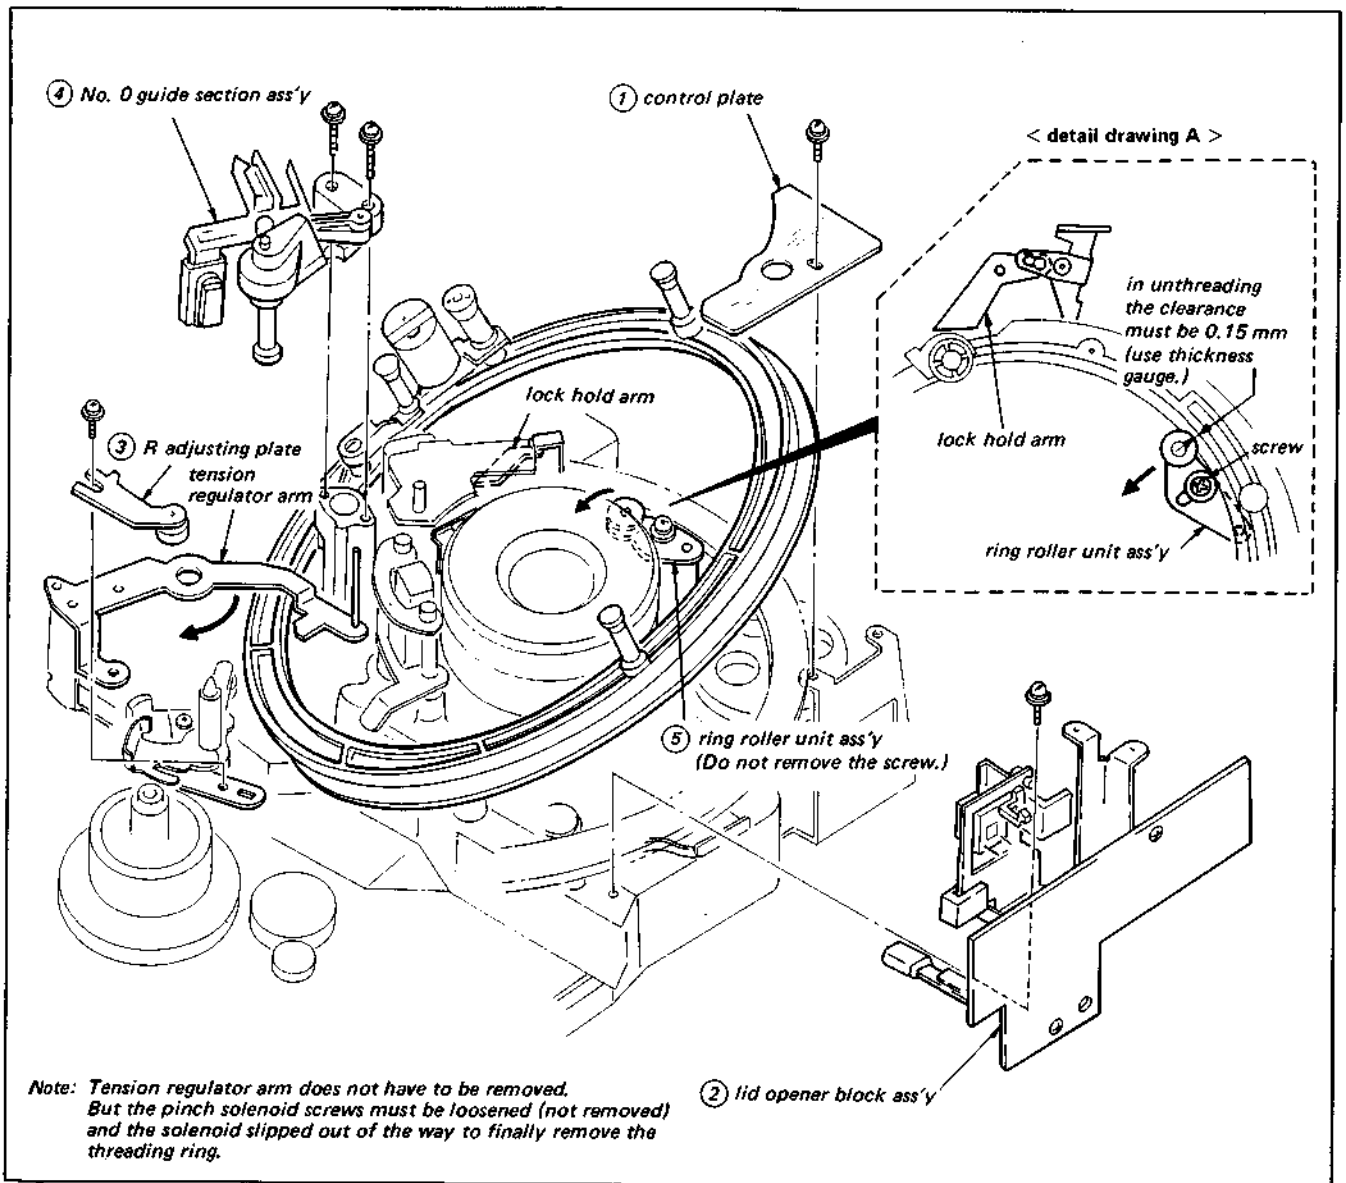

Fig. 3-29. Replacement of threading ring block assembly
1. Turn the threading ring to a point immediately before the threading completion position and stop it at the point where it does not touch the lock hold arm. (See Fig. 3-29.)
2. Perform procedures ① to ⑤ shown in Fig. 3-29.
4. Perform the adjustment of control plate ①, R adjusting plate ③, No. 0 guide section assembly ④, and ring roller unit assembly ⑤ after the replacement.
- (i) As to the adjustment of control plate ①, refer to "Position Adjustment of Threading Unit B assembly and Control Plate", Section 3-9-2.
- (ii) As to the adjustment of R adjusting plate ③, refer to "Clearance Adjustment of Ring Arm", Section 3-9-6.
- (iii) As to the adjustment of No. 0 guide section assembly ④, perform procedure 6 of this section.
- (iv) As to the adjustment of ring roller unit assembly ⑤, perform the adjustment, referring to detail drawing A in Fig. 3-29.